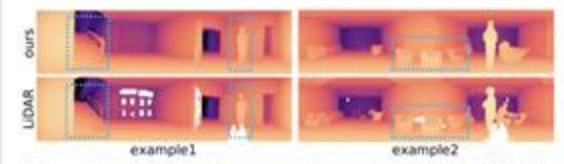

Figure 11: PanoRadar properly handles glass regions (bottom, white pixels) and recovers their depth (top) while LiDAR fails to do so (middle).
- Glass regions are masked to not misinform model by incorrect “ground truth” (figure 11)